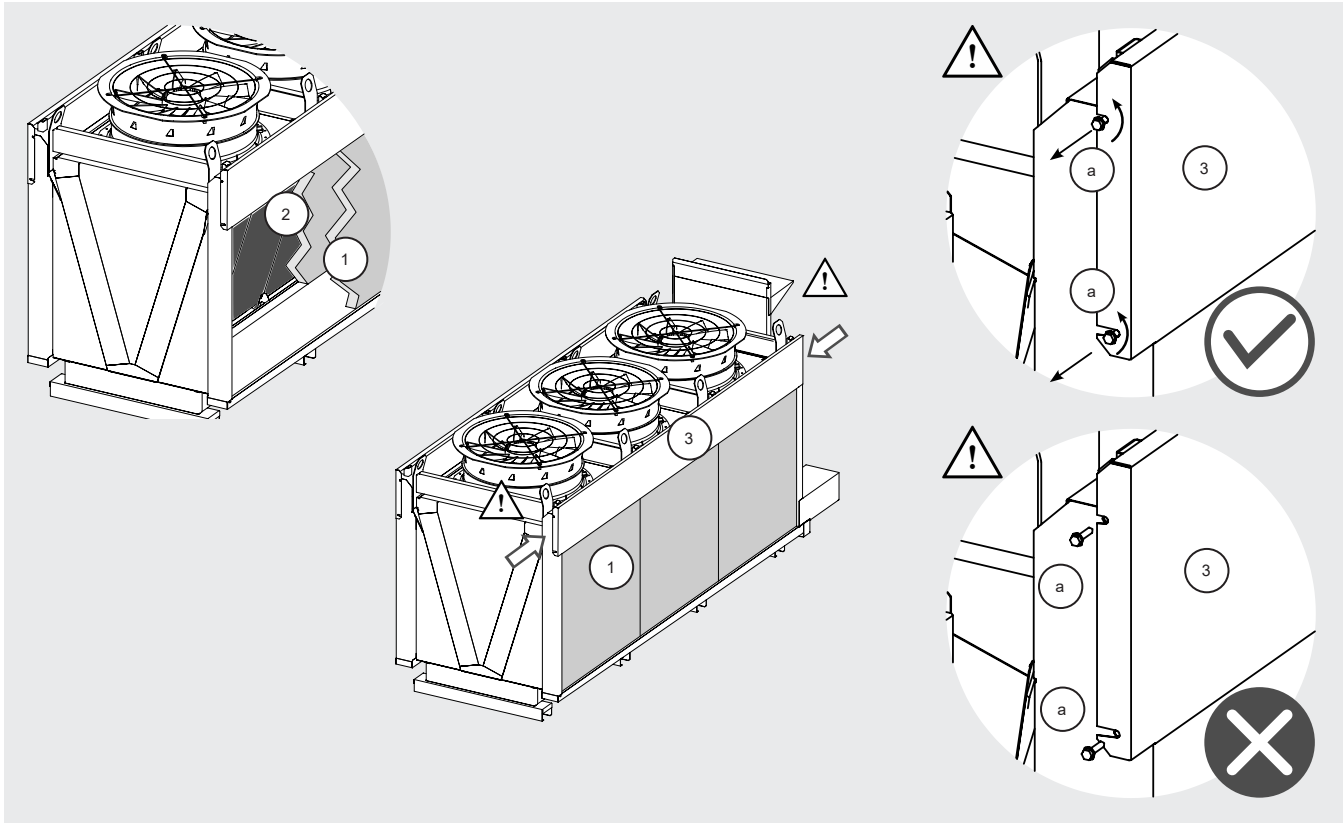

Figure 19
12.11.6 To clean or replace the panels, first remove the outer panels (1) and then the inner panels (2). See Figure 19.
- 12.12.4 Unscrew the screws securing the cover (3) of the nozzle compartment according to Figure 19. Open the nozzle compartment by lifting the cover (3) as seen in 12.11.8.